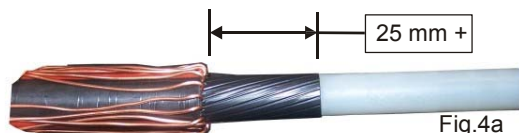

Fig.4a
- The standard operation of the IT-1000-017-20 noted previously will shave the semi-con screen up to 25mm from the stripped oversheath. (Fig.4a).